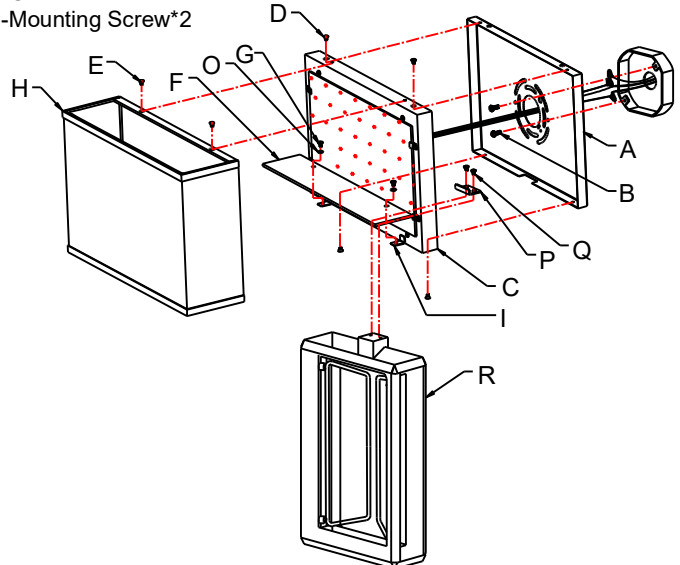

Fig. 2
## CONNECTING THE WIRES (FIG. 2)
5. Connect the electrical wires as shown in Fig. 2, making sure that all wire connectors are secured. If your junction box has a ground wire (green or bare copper), connect the fixture's ground wire to it. Otherwise, connect the fixture ground wire directly to the mounting plate (A) using the green screw provided. After wires are connected, tuck them carefully inside the junction box.
6. Align fixture back plate (C) onto mounting plate (A) and secure with screws (D).